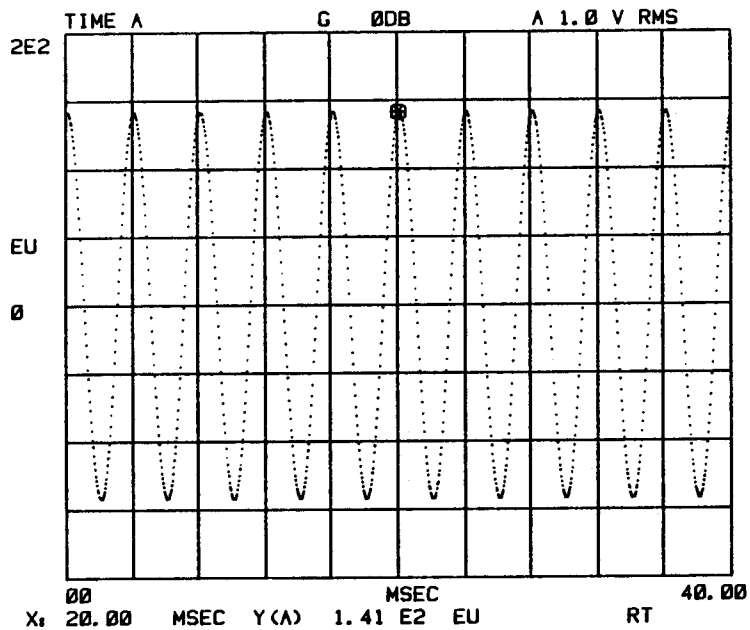

Figure 4-40. Display TIME A, UPPER, 10 MV/EU and Y Units EU.
2. Using the CURSOR LEFT/RIGHT touch controls, move the cursor to the peak of the sine wave and compare the X-axis value with respect to 40 MS full scale. Refer to Figure 4-40 for comparison purposes.